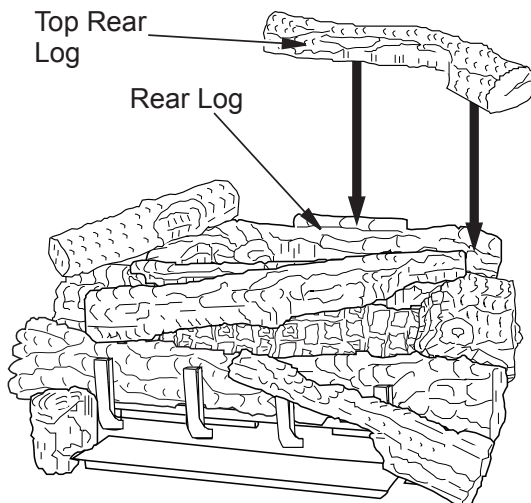

Figure 37 - Installing Top Rear Log
11. Place the top rear log onto the rear log as shown. The rear log has a projection that will fit into the recess area on the bottom of the top rear log (see **Figure 37**).